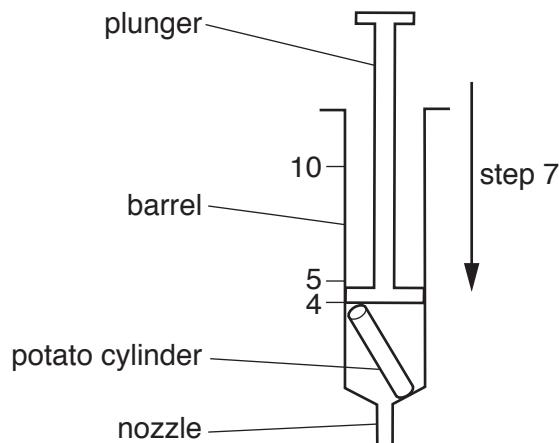

Fig. 1.5
7. Replace the plunger and push it to the 4cm^3 mark, as shown in Fig. 1.5.